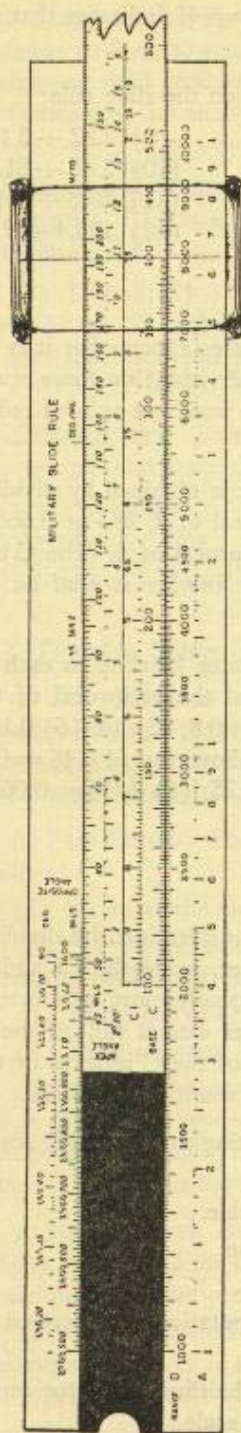

Figure 6. Rule setting for illustrative problems (pars. 9b(1), 10b(1), and 12c(1)).
(1) Move indicator hairline to either of the factors on the D scale. (with practice, this step can be omitted.)
(2) Set either the left or the right C scale index under the hairline or *opposite* the factor on the D scale directly if step (1) is omitted.
(3) Move hairline to other factor on the C scale.
(4) Read product on the D scale under hairline.
*NOTE:* If the product cannot be read because the second factor is on that part of the slide projecting beyond the D scale, repeat above operations using other C scale index in step (2) above.
*b. ILLUSTRATIVE EXAMPLES.* (1) To multiply 2 by 4 (fig. 6), set left C index opposite 2 on D scale. Move indicator hairline to 4 on C scale and read product 8 under hairline on D scale.
- (1) Move indicator hairline to dividend on D scale.
- (2) Set divisor on C scale under hairline.
- (3) Read quotient on D scale opposite C scale index.
b. ILLUSTRATIVE EXAMPLE. (1) To divide 8 by 4, move indicator hairline to 8 on D scale. Set 4 on C scale under hairline. Opposite C index, read quotient 2 on D scale. This operation is the reverse of the multiplication illustrated in figure 6.
(2) To divide 876 by 20.4, move indicator hairline to 876 on D scale. Set 204 on C scale under hairline. Opposite C index, read quotient 42.9 on D scale.
- (1) Move hairline to either of factors on D scale.
- (2) Set other factor on CI scale under hairline.
- (3) Read product on D scale opposite C index.
- (4) Place decimal point by approximate computation as described in paragraph 9c.
- (5) To multiply an additional factor, move hairline to factor on C scale and read final product under hairline on D scale.
*c. ILLUSTRATIVE EXAMPLES.* (1) To multiply  $8 \times 2.5$  (fig. 6), move hairline to 8 on D scale. Set 25 on CI scale under hairline opposite C index and read product 2 on D scale. The rough calculation  $8 \times 2 = 16$  indicates that the answer is 20.
(2) To multiply  $876 \times 20.4$ , move hairline to 876 on D scale. Set 204 on CI scale under hairline opposite C index, and read product 1787 on D scale. The rough calculation  $900 \times 20 = 18,000$  indicates that the answer is 17,870.
(3) To multiply  $3.65 \times 76.2 \times 218$ , move hairline to 365 on D scale. Set 762 on CI scale under hairline. Move hairline to 218 on C scale. Under hairline, read product 606 on D scale. The rough calculation  $4 \times 70 \times 200 = 56,000$  indicates that the answer is 60,600.
(1) Move hairline to dividend on D scale. (This step may be omitted.)
(2) Set either left or right C index under hairline, or opposite dividend on D scale directly if step (1) is omitted.
(3) Move hairline to divisor on CI scale.
(4) Read quotient on D scale under hairline.
(5) If quotient cannot be read because second factor is on part of slide projecting beyond D scale, repeat above operations using other C index in step (2). However, in this case, it is usually preferable to use the C scale as described in paragraph 10.
*c. ILLUSTRATIVE EXAMPLES.* (1) To divide 2 by 25 (fig. 6), set C index opposite 2 on D scale. Move hairline to 25 on CI scale. Under hairline, read quotient 0.08 on D scale.
(2) To divide 468 by 278 and then divide the quotient by 63, move hairline to 468 on D scale. Set 278 on C scale under hairline. Opposite C index, read first quotient 1.685 on D scale. Move hairline to 63 on CI scale and read second quotient 0.0267 on D scale.
(3) To multiply 631 by 7.68 and then divide the product by 5.29, move hairline to 631 on D scale. Set 768 on CI scale under hairline. Opposite C index, read product 4850 on D scale. Move hairline to 529 on CI scale. Under hairline, read quotient 916 on D scale.
*d. EXERCISES.* (1) Using C and D scales, divide 169.5 by 5.66. Using CI scale, divide above quotient by 1.25.